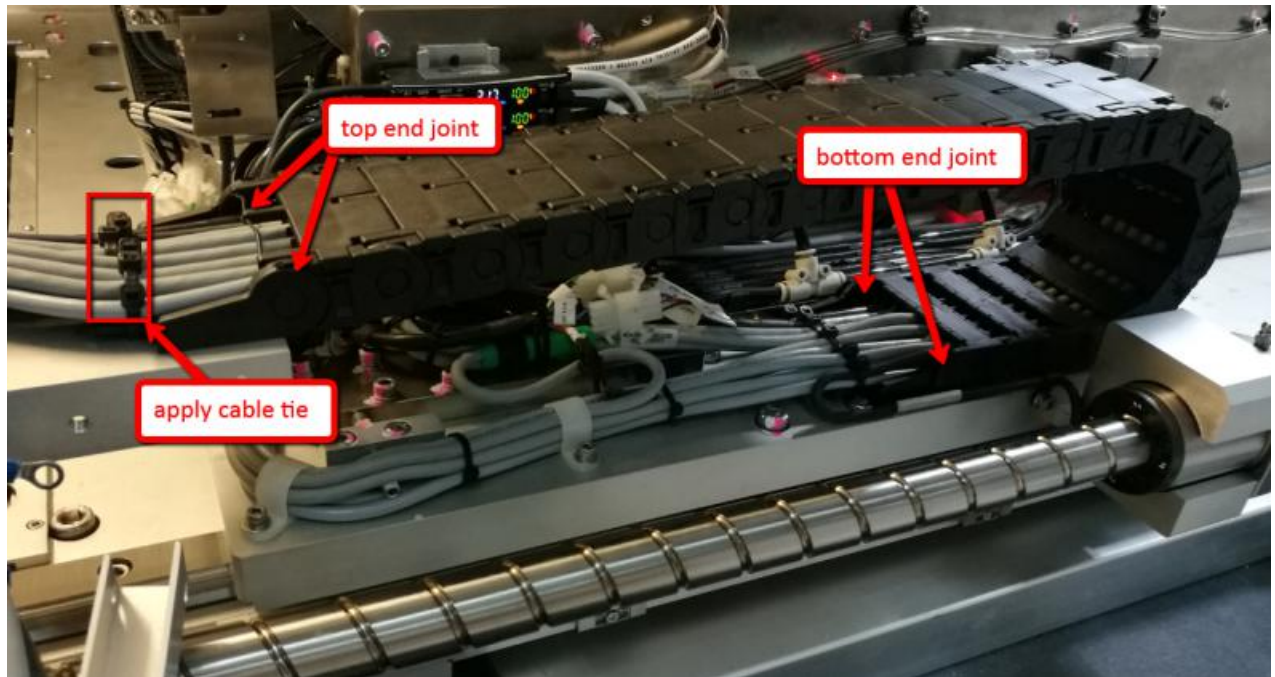

Figure 25
5. Close back E-chain end joints on both side and apply necessary cable tie as shown in Figure 25.